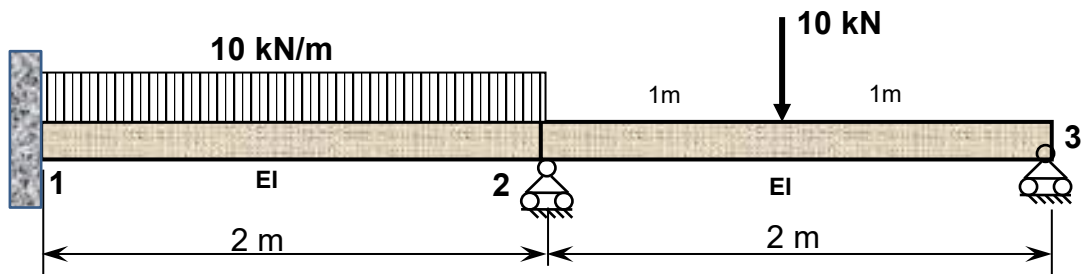

Figure Q1
- b) For the beam shown in Figure Q1, derive the member stiffness matrices for elements 1-2 and 2-3 in the global axes. (5 Marks)